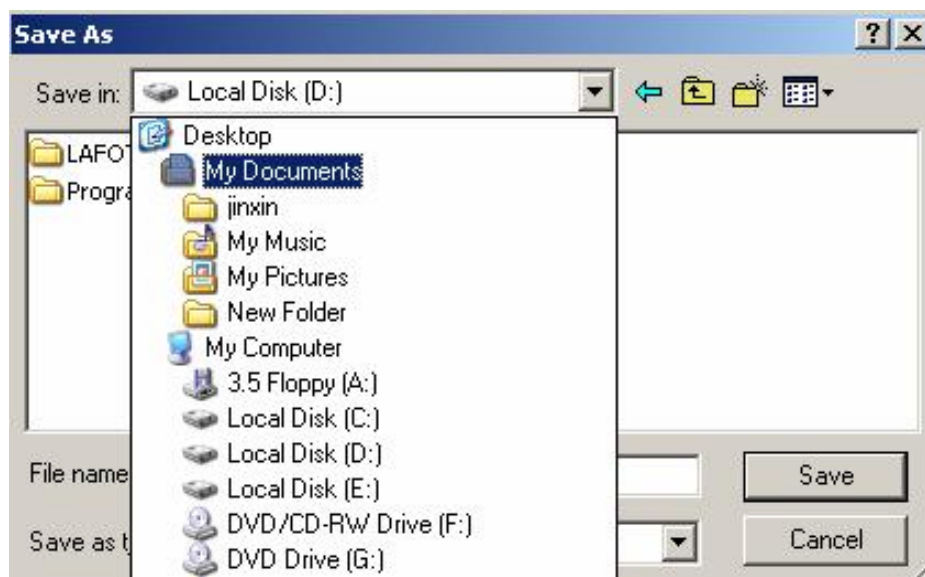

Fig 2.7.11
- Now the computer is asking to save this new file to Windows PC as a backup, just select a directory of Windows PC (Fig 2.7.11).